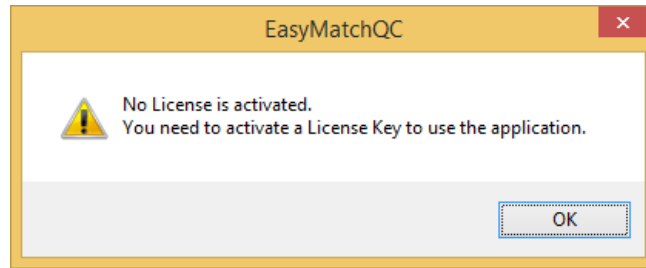

Figure 5. No License Warning
2. A warning message to activate the license will be displayed as shown in Figure 5.
- a. From the **CHOOSE AN OPTION** page (Figure 5), select **KEY ID**.
- b. From the **CHOOSE AN OPTION** page (Figure 5), select **KEY FILE (.skl)**.